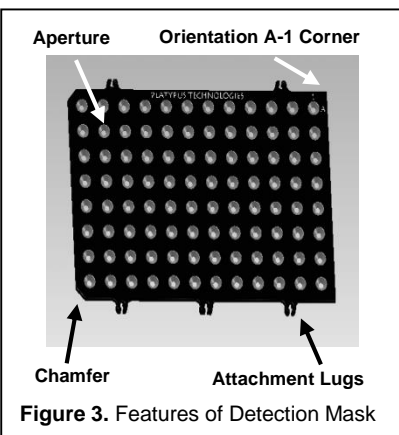

Figure 3. Features of Detection Mask
- Orient the chamfered corners of the mask with those of the 96-well plate, ensuring that the A1 corner of the mask is aligned with the A1 well of the plate (Figure 3).